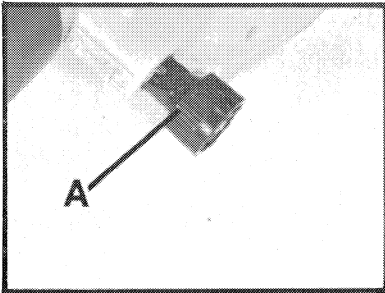

Fig. 2
1. For regular drilling operation, pull out selector knob (A) Fig. 2 and twist so that flats on bottom of knob line up and seat in shallow slot in housing. (Shallow slot in line with drill bit)